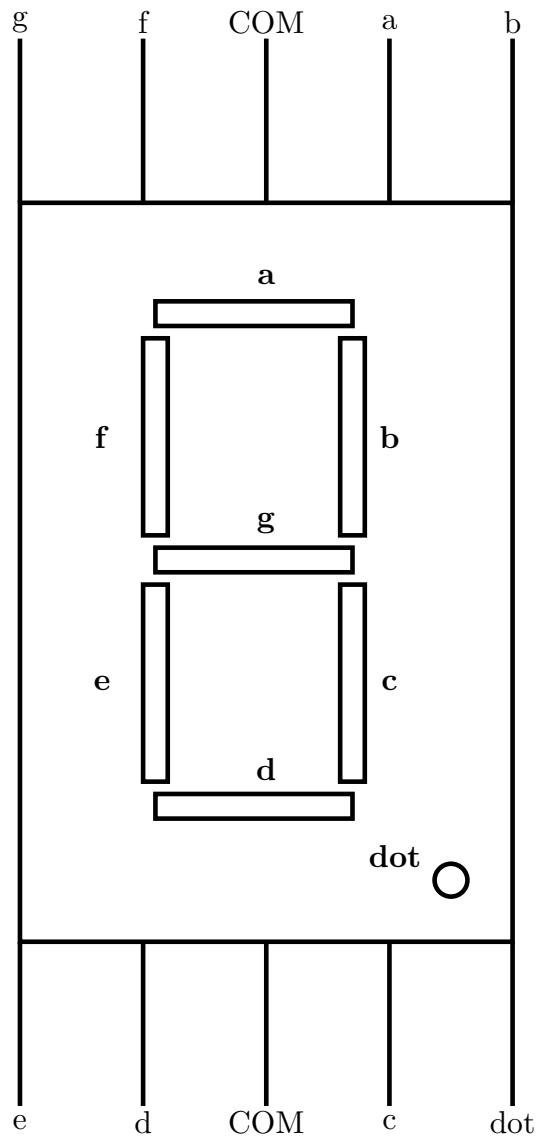
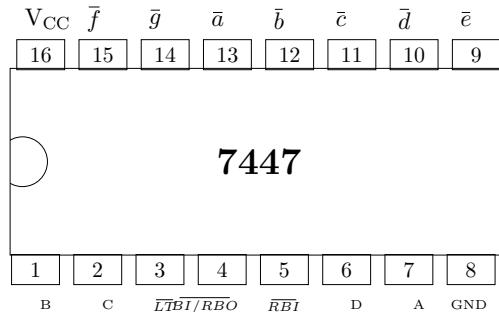

Figure 2.2:
Figure 3.1:
The seven segment display in Fig. 2.2 has eight pins, *a*, *b*, *c*, *d*, *e*, *f*, *g* and *dot* that take an active LOW input, i.e. the LED will glow only if the input is connected to ground. Each of these pins is connected to an LED segment. The *dot* pin is reserved for the · LED.
1. Make connections between the seven segment display in Fig. 2.2 and the 7447 IC in Fig. 3.1 as shown in Table 3.2